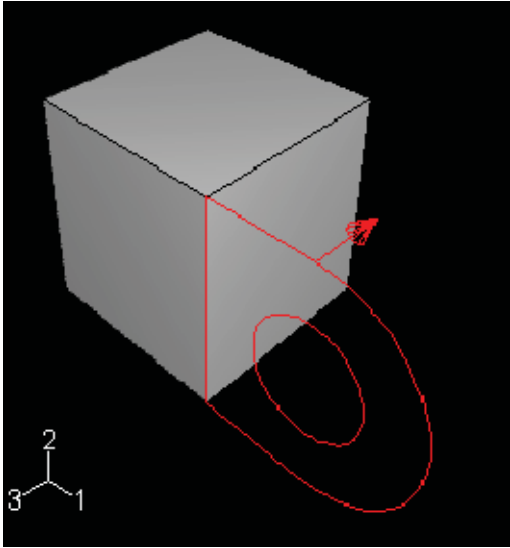

Figure 6-4
- c. Click **Flip** to reverse the extrusion direction, as shown in Figure 6-4.